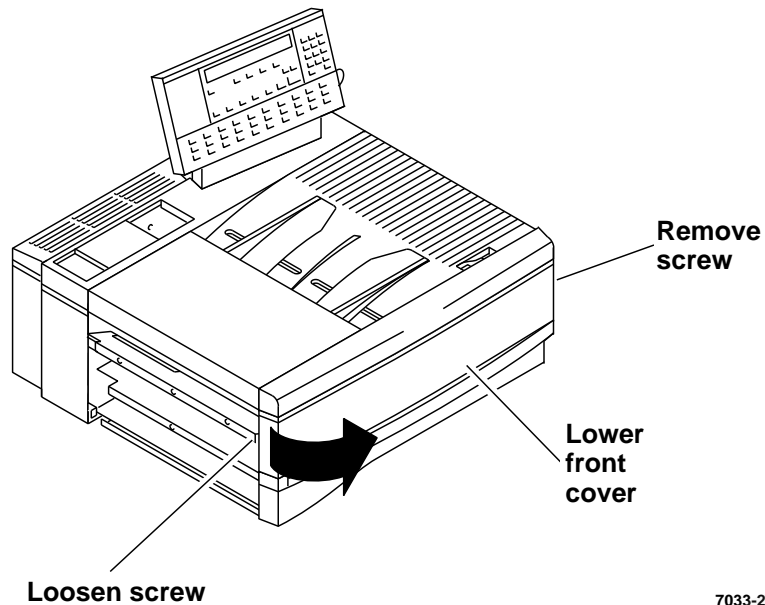

Figure 1. Lower front cover removal
- c. Remove three (3) screws securing left side cover.
- a. Remove the screw from the right end of the cover (Figure 1).